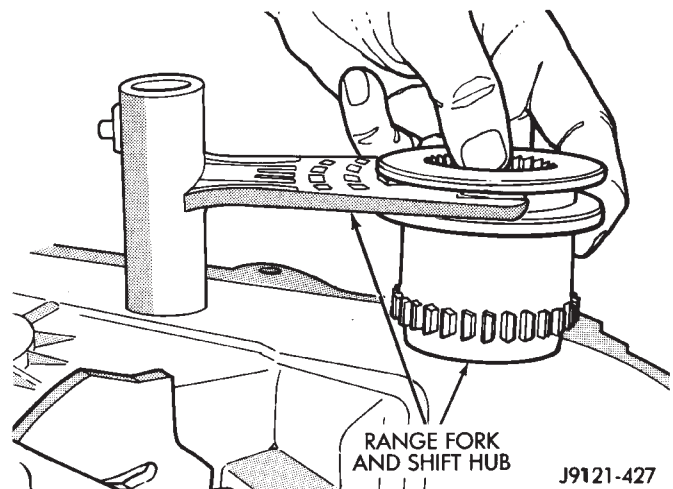
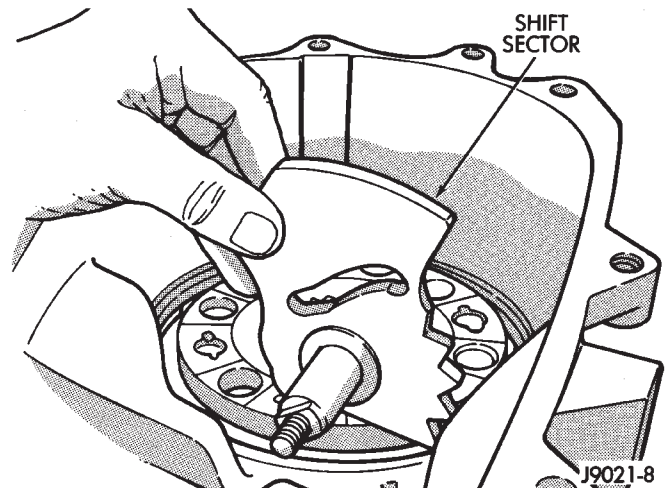

Fig. 18 Range Fork And Hub Removal/Installation
Fig. 19 Shift Sector Removal/Installation
(27) Remove range fork and shift hub (Fig. 18).
(28) Remove range lever from sector shaft.
(29) Remove shift sector (Fig. 19).